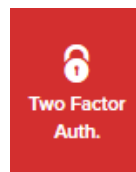

Figure 8. Partner Portal (Two Factor Auth. icon)
4. Click the **Two Factor Auth.** link on the left-hand side of the web page (Figure 8 \(page 32\)).